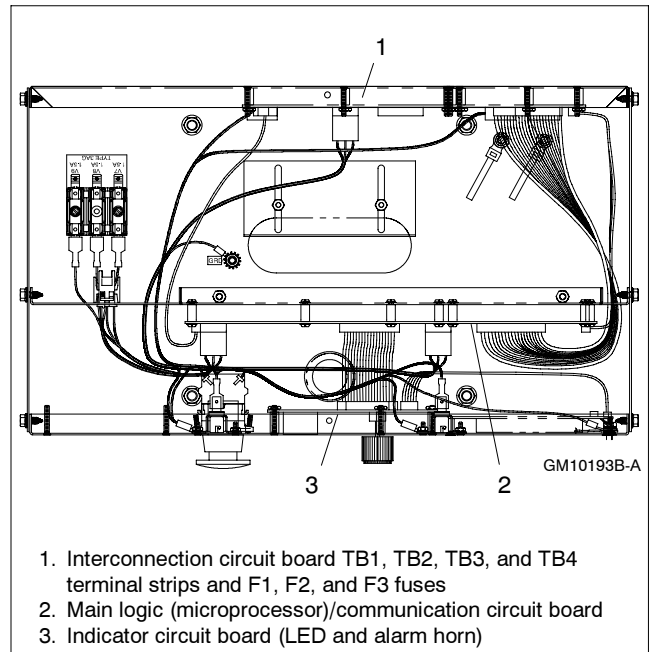
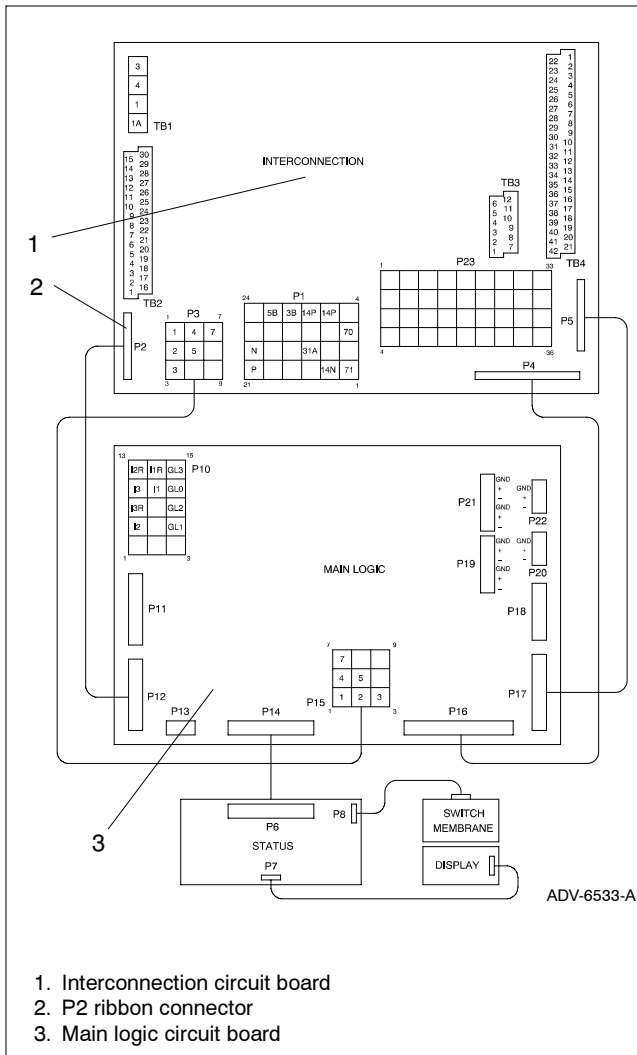

Figure 10 Controller Circuit Boards and Fuses (Controller Top View)
Figure 11 Interconnection Circuit Board Ribbon Connector P2 (Top View of Circuit Board)
- 6.7 Disconnect the P2 ribbon cable from the interconnection circuit board on controller back panel. See Figure 10 and Figure 11.